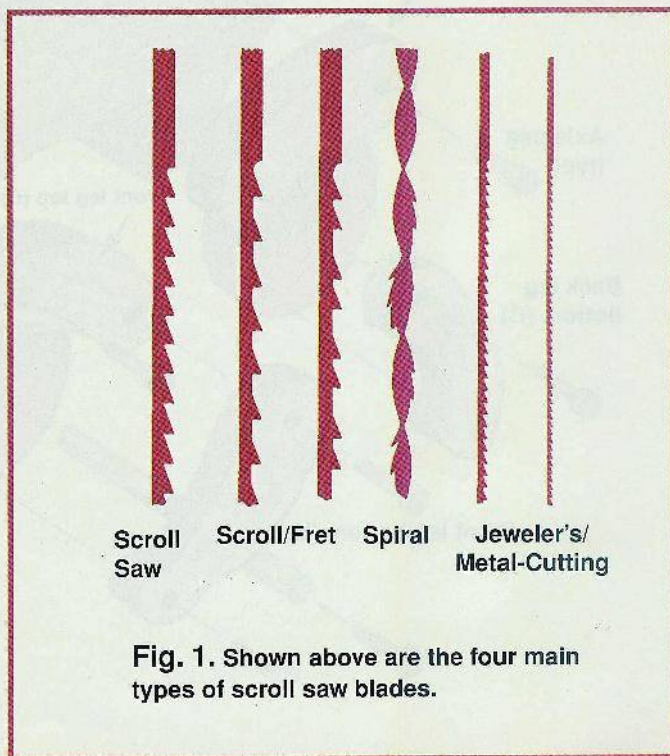

Fig. 1. Shown above are the four main types of scroll saw blades.
Prior to cutting the strips to finished size, check them for any slight bow along their length, and then position them with their ends touching so that any space between them (caused by the bowing) is kept at their center—this is how the strips should be positioned in the finished Quilt Hanger (see Fig. 1). Next, check the two pieces for any imperfections or interesting grain patterns and choose which one to use for the front piece.
Fig. 1. Before cutting the two strips to final size, position them with their ends touching so that any space between them (caused by bowing) is kept at their mutual center. This is how the strips should be positioned in the finished Quilt Hanger.
Most scroll sawyers use plain-end ("pinless") blades that measure 5" or longer. While styles may vary slightly from manufacturer to manufacturer, the great majority of these blades can be grouped into one of four categories: *scroll saw*, *scroll/fret*, *spiral*, and *jeweler's/metal-cutting* (see Fig. 1).
(2) *Scroll/fret blades*—These blades allow the sawyer to tackle much more complex projects. As shown in Fig. 1, the teeth of scroll/fret blades are arranged in a "skip-tooth" fashion, with a flat space between each tooth. This allows the blade to run cooler, and it also provides for faster, more efficient removal of sawdust and wood chips.
(4) *Jeweler's/metal-cutting blades*—As shown in Fig. 1, these blades are very fine and have a high teeth-per-inch ratio. As their name implies, they are used primarily for cutting metal and other relatively hard materials. Jeweler's blades are available in very small sizes, down to 8/0, which is the finest blade imaginable—size 8/0 has been described as being “the thickness of a fat hair.” It should be noted that there is a subtle difference between jeweler's and metal cutting blades. Jeweler's blades are not intended to cut ferrous metals and should only be used on variable speed scroll saws, capable of operating at extremely slow speeds. Some sawyers routinely use the 2/0, 3/0 and 4/0 (still very fine blades, but considerably thicker than the 8/0) for cutting very thin wood, such as fragile veneers used for marquetry. When we have used jeweler's/metal-cutting blades for cutting wood, we found that the teeth fill up very quickly with sawdust, thus rendering them somewhat ineffective.